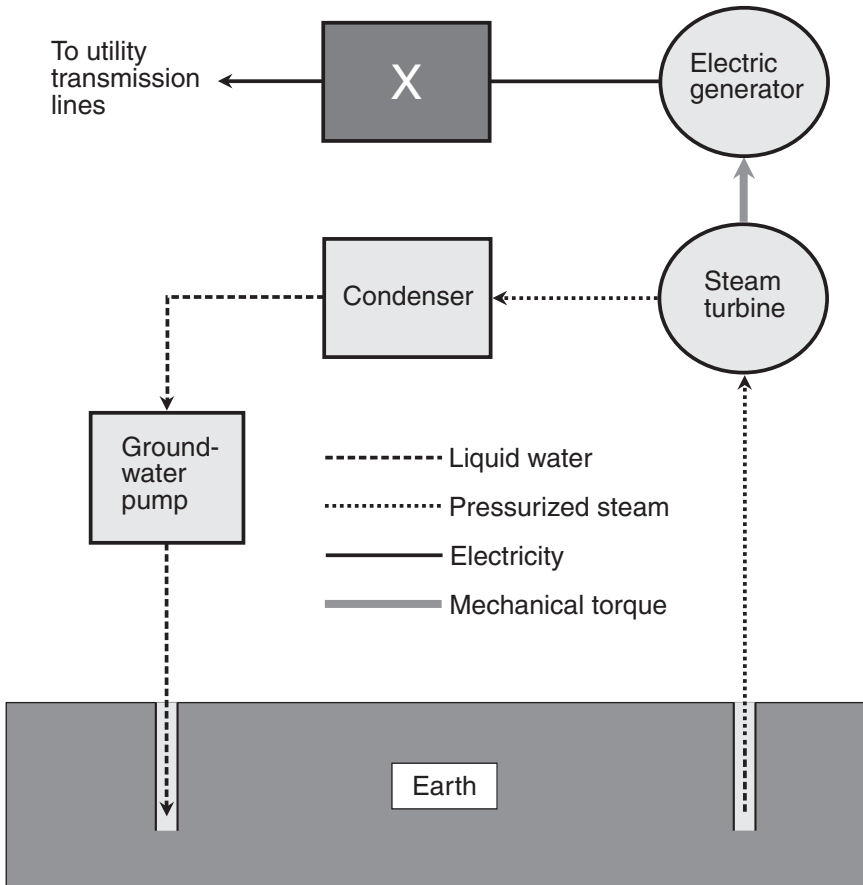

Figure Exam-8 Diagram for questions 87 and 88.
87. Refer to Figure Exam-8. What type of power plant is this?
88. In the system of Figure Exam-8, what is the component marked X?